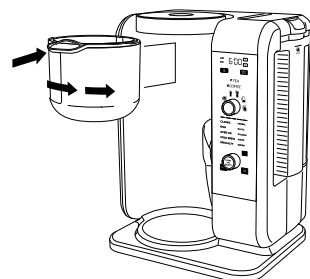

Fig. 10
- 1 Open the brew basket by sliding it out of the brewer (Fig. 10). Ensure you have the COFFEE filter holder in the machine, denoted by the orange handle with the coffee bean icon.
- 1 Open the brew basket by sliding it out of the brewer (Fig. 10). Ensure you have the TEA filter holder in the machine, denoted by the green handle with the tea leaf icon.